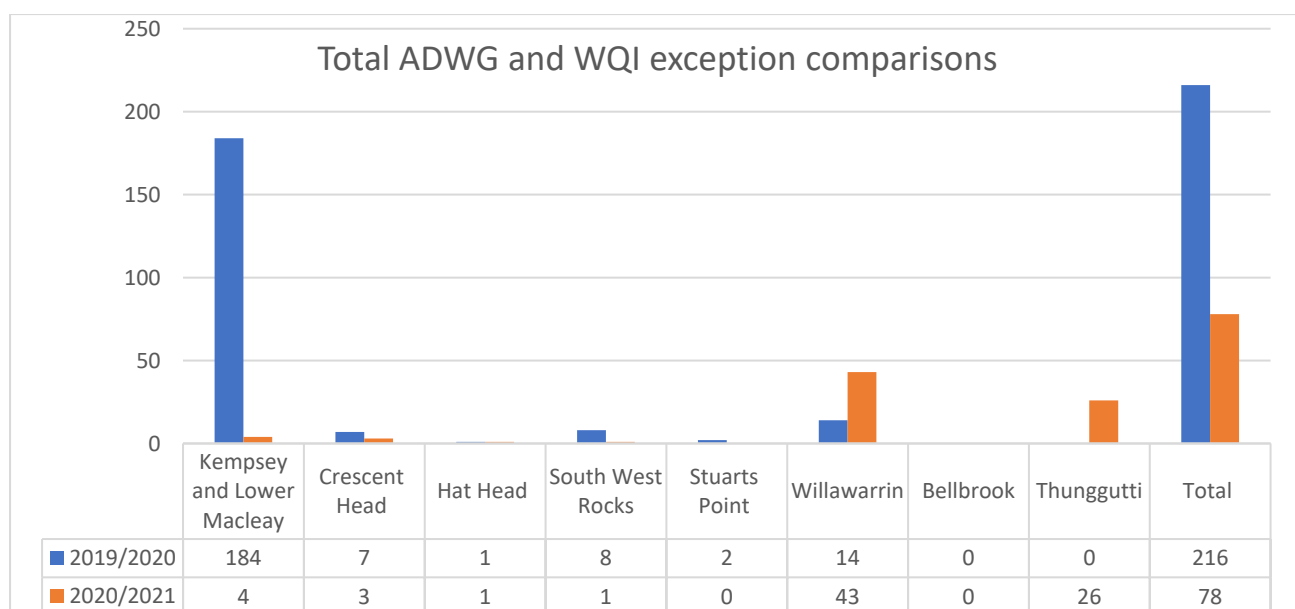

Figure 6: Total ADWG and WQI exception comparison between 2019-2020 and 2020-2021 reporting years
Seventy-eight (78) ADWG and WQI exceptions from both reporting platforms were recorded across Council’s water supply systems (Figure 6). This is a 63.9% decrease from the two-hundred and sixteen (216) exceptions recorded in the previous reporting year. The main contributing factors to the decline was the KLM supply change from the emergency supply of SMD back to supply via the Sherwood borefield along with the improved source water quality across each of the supply systems (excluding Willawarrin and Thunggutti) after the 2019-2020 drought broke.
The ADWG and WQI non-compliant results are discussed in the supply systems in which they occurred with reference to Figure 6, and Tables 6.1. and 6.2.
The supply recorded three (3) WQI exceptions; a reduction of four (4) from the previous year (Figure 6). The improved outcomes are due to the re-commencement of the flushing and scouring program of the Loftus Road water main after lifting drought-imposed water restrictions in March/April 2020.
One (1) ADWG exception occurred in 2020-2021, a reduction of seven (7) from the previous reporting year (Figure 6).